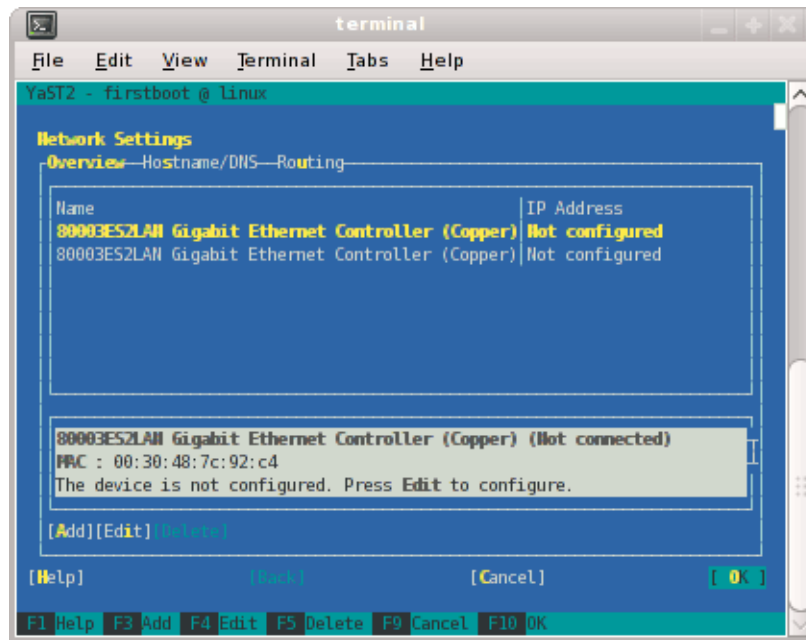

Figure 2-5 Network Settings Screen
8. From the **Network Settings** screen, as shown in Figure 2-5 on page 43, configure the first card under **Name** to establish the public network (sometimes called the house network) connection to your SGI Altix ICE system. To do this, highlight the first card and select **Edit**.
Note: In SLES11, this screen is also where we will come back to in order to set up things like the default route and DNS. You can see all of those menu choices just to the right of **Overview** in Figure 2-5 on page 43.